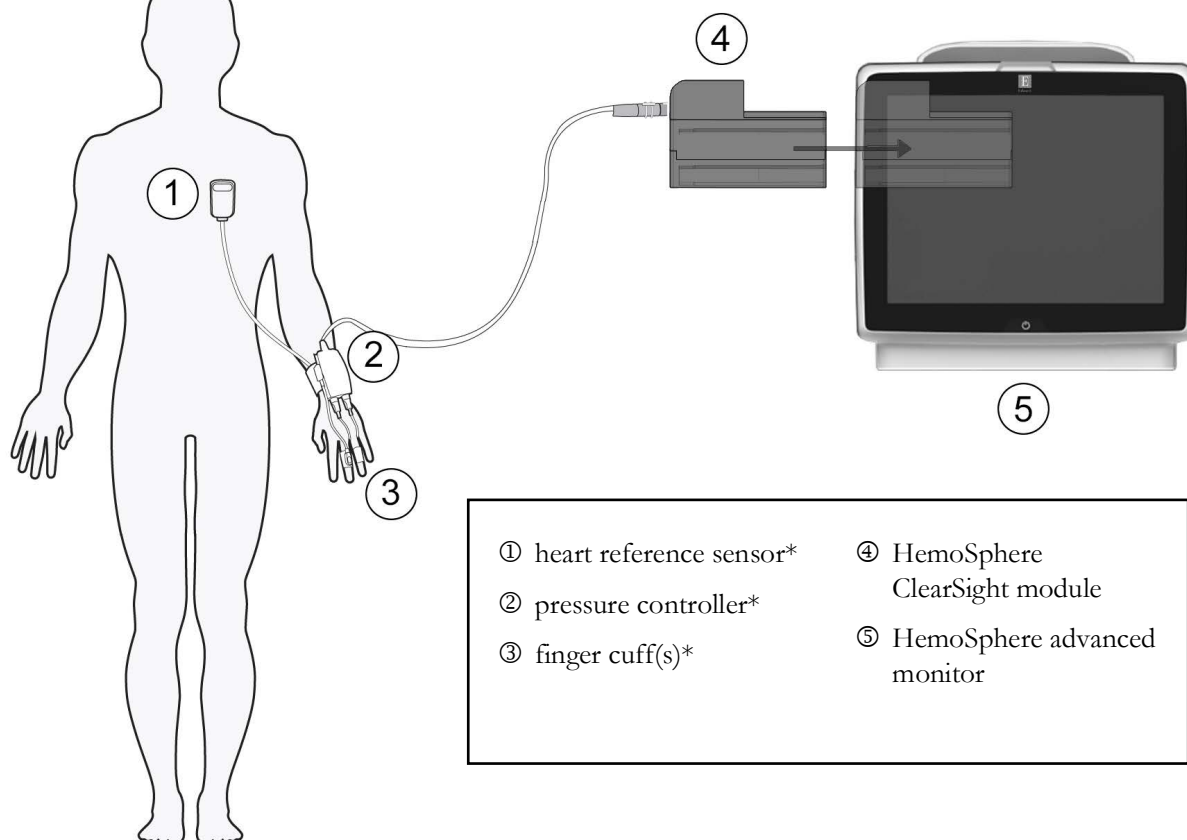

Figure 11-1 HemoSphere non-invasive system connection overview
The HemoSphere non-invasive system is composed of the HemoSphere advanced monitor with ClearSight module and connected pressure controller, heart reference sensor, and compatible Edwards finger cuff(s). See system connections in figure 11-1 on page 197. Accurate measurement of the patient's blood pressure and key hemodynamic parameters is based on the Volume Clamp method, Physiocal method and ClearSight technology.
The HemoSphere ClearSight module is compatible with all approved Edwards finger cuffs. See figure 11-1 for an overview of the HemoSphere non-invasive system connections.
NOTE Components indicated by * figure 11-1 legend are APPLIED PARTS as defined in IEC 60601-1 that in normal use necessarily come into physical contact with the patient for the HemoSphere non-invasive system to perform its function.
- 3 Attach the pressure controller cable to the HemoSphere ClearSight module. (figure 11-1).